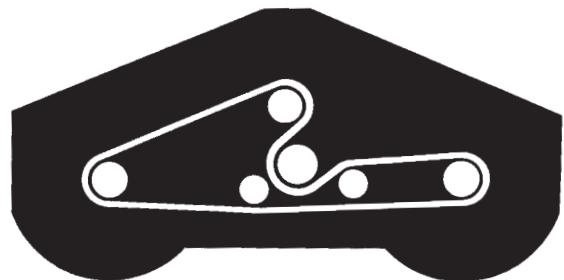

Figure 23
5. Route the new belt around the spindle pulleys and through the idler pulley assembly as shown in Figure 23.